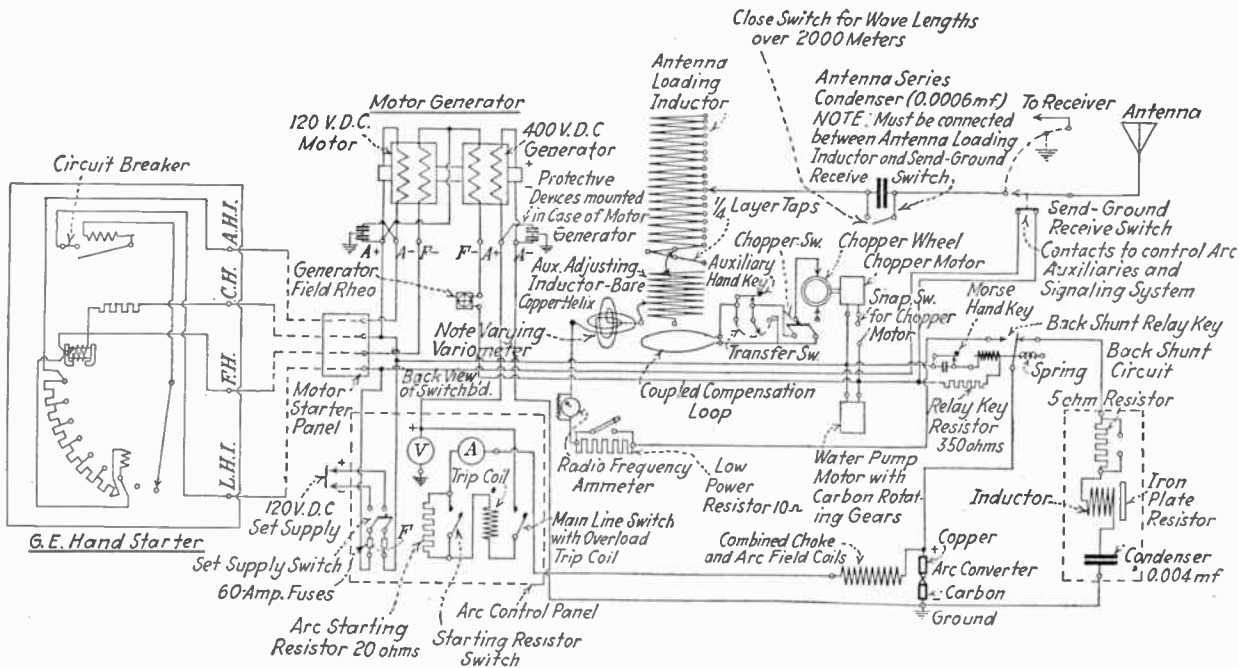

FIG. 13.—Complete Wiring diagram of a two-kilowatts Federal arc (back-shunt system).
*Ans.* Figure 13 illustrates the wiring diagram of the 2-kw. Federal-arc back-shunt system.